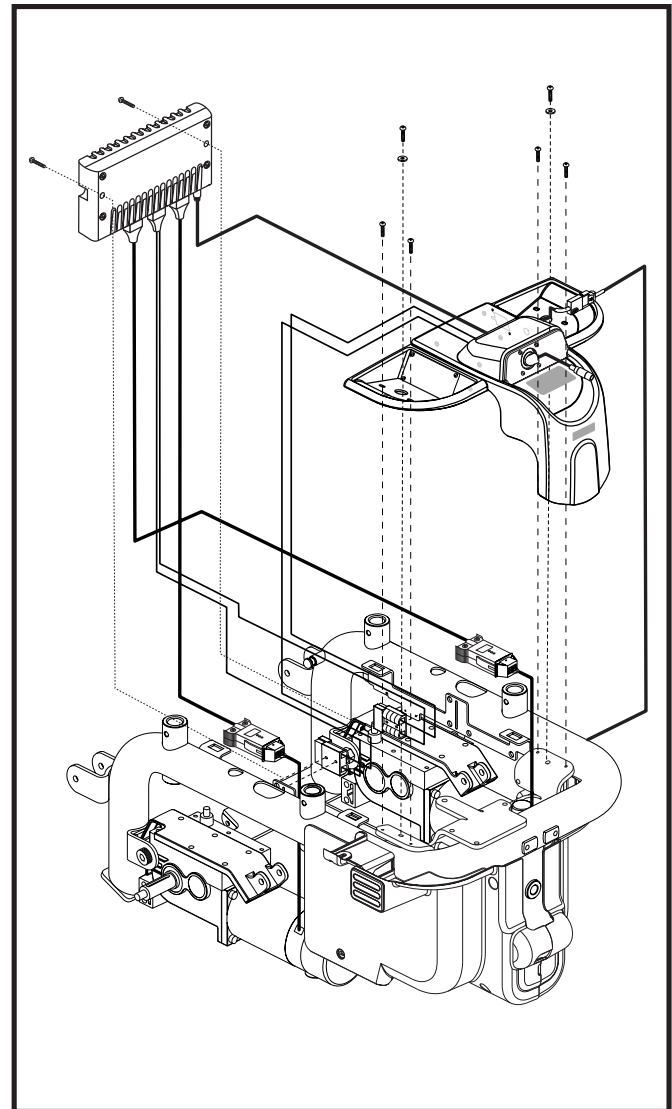

Figure 14. Electronics Tray Removal/Assembly
4. Unfasten the electronics tray from the frame. **See figure 14.**
14. Unfasten the electronics tray from the frame. **See figure 14.**
24. Unfasten the electronics tray from the frame. **See figure 14.**